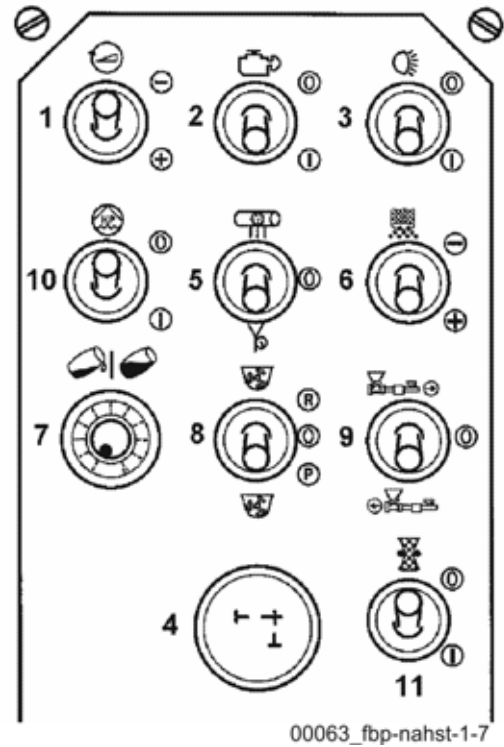

Fig. 492 Local control unit for a truck mixer pump
1 For truck mixer concrete pumps (FBP) as of series 02, a selector switch (11) on the local control unit (**Fig. 492**) serves the same purpose.